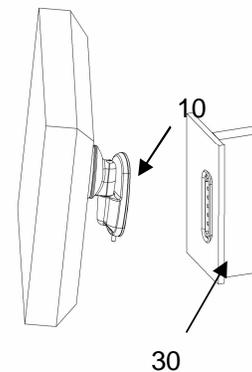

Figure 12. Attach Mount to Wall Bracket
1. Align top of mount (10) with top of wall bracket (30). Push bottom of mount against bottom of wall bracket until mount fits snugly in place. (see Figure 12)